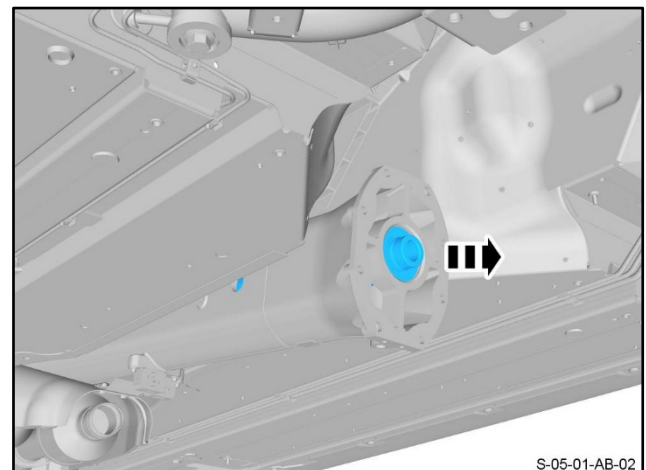

Figure 29
54. Carefully remove the propeller shaft from the torque tube (refer to Figure 29).